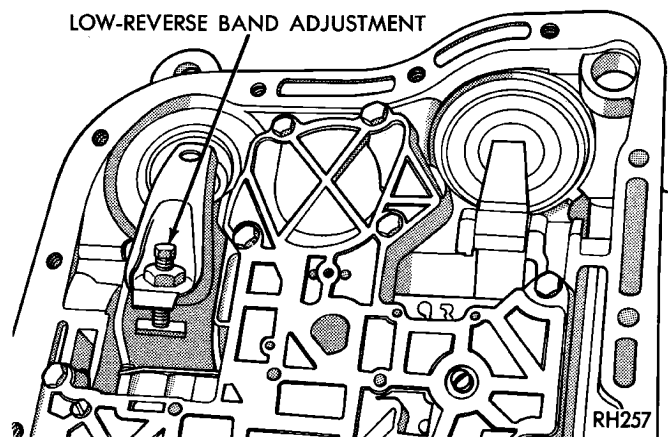

Fig. 263 Rear Band Adjustment Screw Location
- (1) Raise vehicle.
- (2) Remove transmission oil pan and drain fluid.
- (3) Loosen band adjusting screw locknut 5-6 turns. Be sure adjusting screw turns freely in lever.
- (4) Tighten adjusting screw to 8 N·m (72 in. lbs.) torque (Fig. 263).
- (5) Back off adjusting screw 2 turns.
- (6) Hold adjusting screw in place and tighten locknut to 34 N·m (25 ft. lbs.) torque.
- (7) Position new gasket on oil pan and install pan on transmission. Tighten pan bolts to 17 N·m (13 ft. lbs.) torque.
- (8) Lower vehicle and refill transmission with Mopar® ATF Plus, Type 7176 fluid.